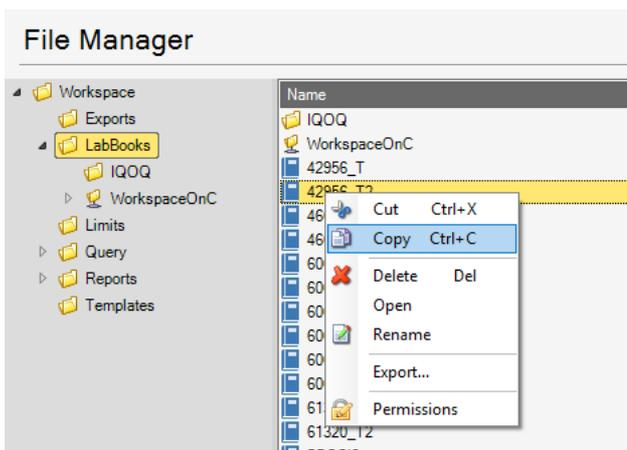

Figure 4-63. Shortcut menu of file for copy
2. Right-click the file you wish to copy, see Figure 4-63.